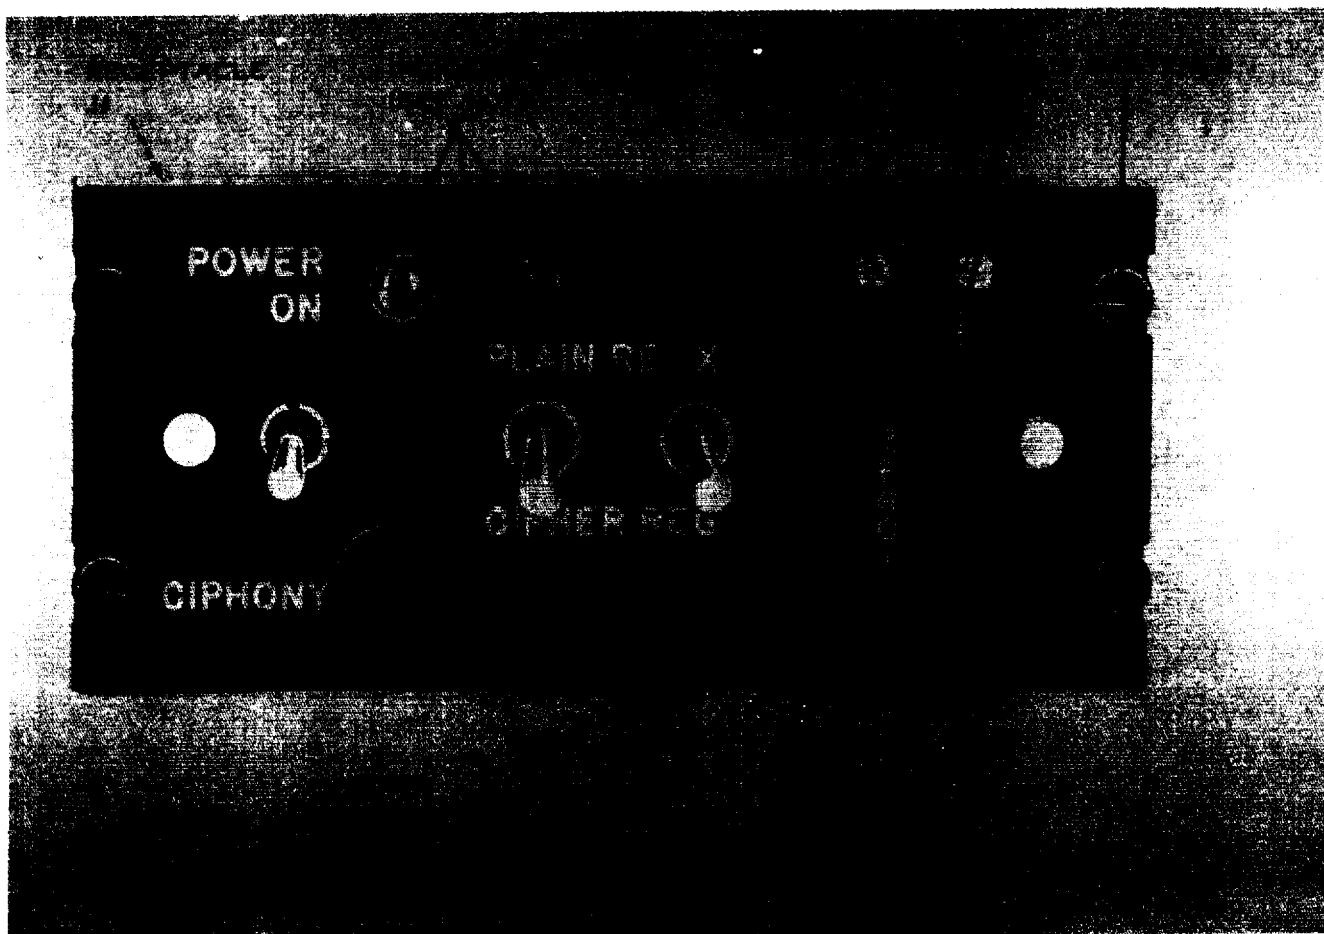

Figure 1-1. Control Indicator.
This manual describes Control Indicator C-8157/ARC (fig. 1-1, 1-2) and Mounting MT-3802/ARC (fig. 1-3). The manual provides instructions for operation, organisational, direct support, and general support maintenance, and functioning of the equipment.
a. Control Indicator C-8157/ARC (fig. 1-1, 1-2) is used as auxiliary equipment to provide control of the TSEC/KY-28 Cipher voice security equipment (CX mode) operation.
(fig. 1-1 and 1-2)